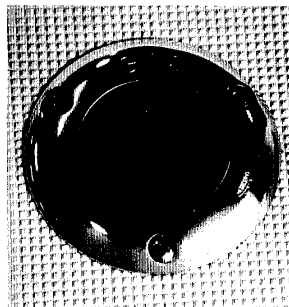

Figure 15
5. A special key to unlock the fuel cap is given to you. Insert the key in the slot in the fuel cap. The fuel cap for the fuel tank is midship in the covering board on the port side of the boat. See figure 15.